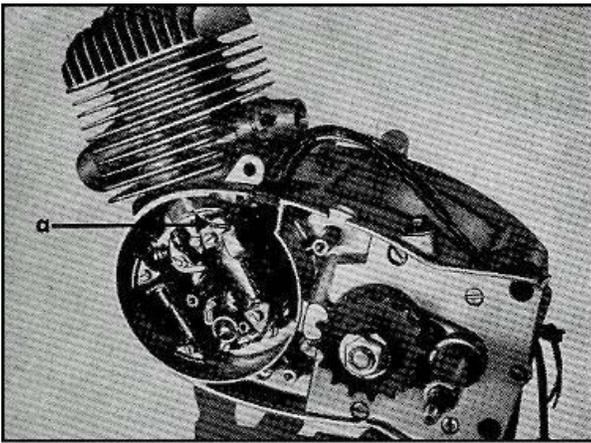

Fig. 9
If the work described in the following passages is confined to a repair of clutch and pedal gear change system, the baseplate can remain on the left casing. If the engine must be completely dismantled, take the plate off now, first removing the 2 cylindrical screws, M 4 x 15, and the casing screws, M 6 x 92, complete with cable clip (fig. 9).
*) with cable clip (fig. 9)